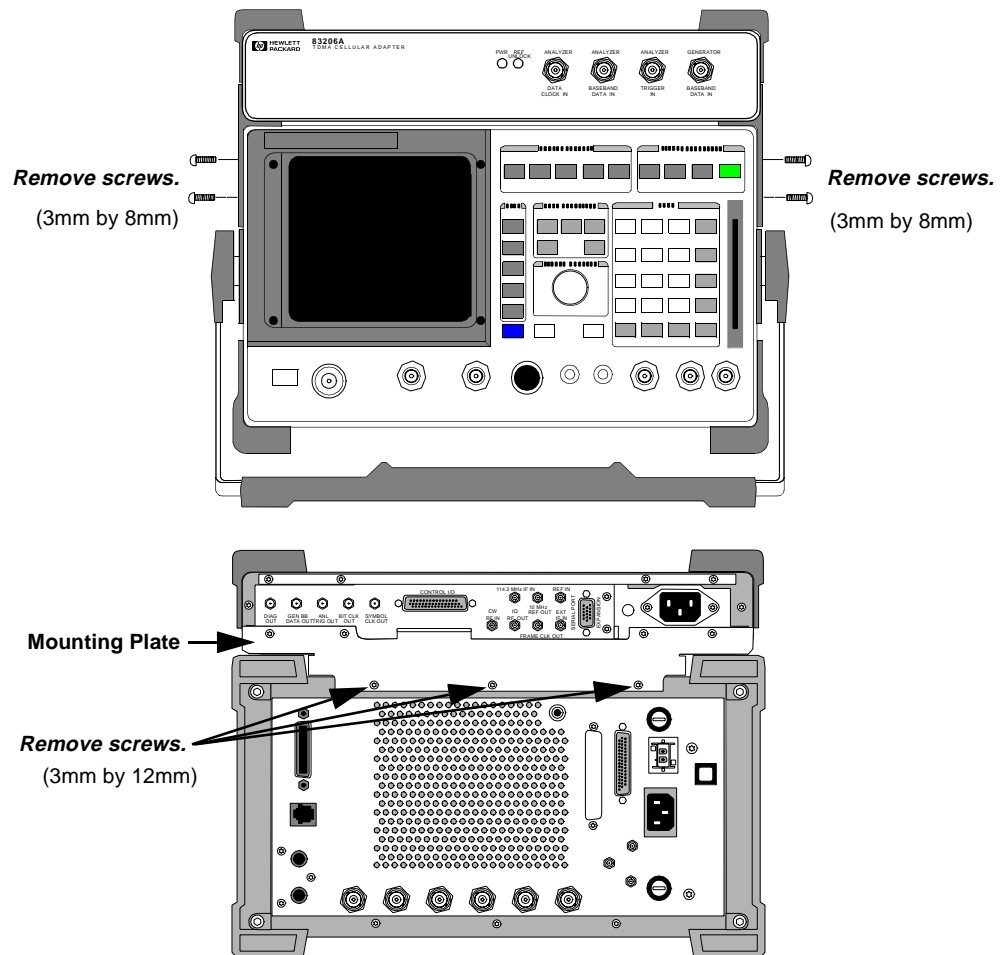

Figure 13
2. Separate the Cellular Adapter from the Test Set after removing the 7 screws that secure the units together, **see figure 13**: